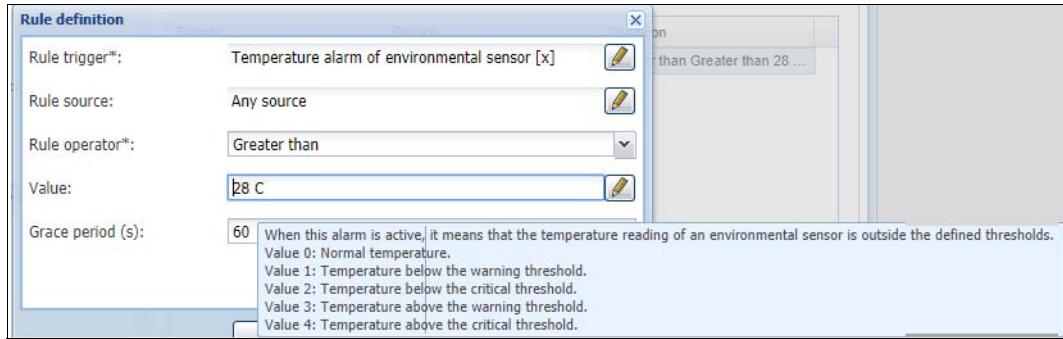

Figure 42 Rule definition
- Fill in the rest of the required fields, rule source, rule operator, value and grace period (s) as shown in Figure 42.